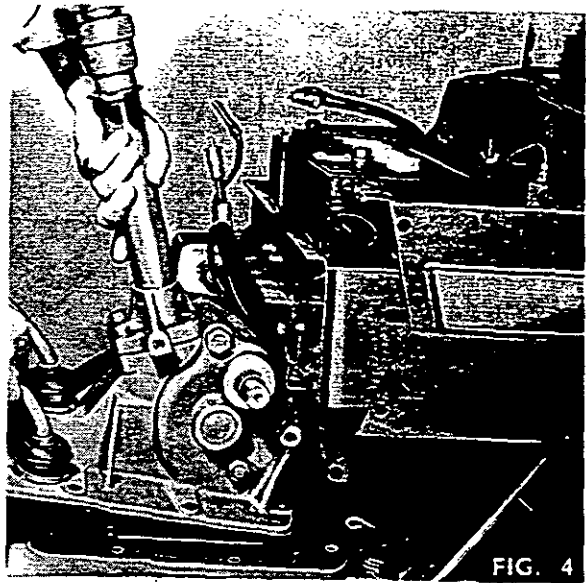

FIG. 4
9. Fig. 4. Lift and manoeuvre the steering box complete with gear levers clear of the tractor and place on a suitable surface taking care not to damage the gear selector levers.